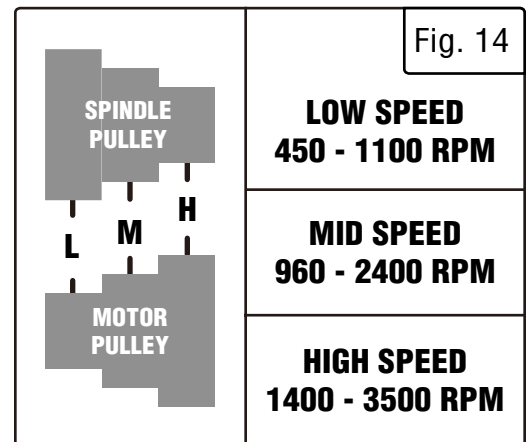

Fig. 14
This is a variable speed lathe that has three speed ranges. Choose the low, mid, or high speed range based on your specific task (see Fig. 14). The belt must be adjusted to change from one speed range to another. To adjust the belt:
3. Turn the belt tension locking handle (Fig. 17 - 2) counterclockwise and pull up on the motor plate flange (Fig. 17 - 1) to relieve tension on the drive belt. Tighten the handle. Place the drive belt between the spindle pulley and motor pulley as shown in Fig. 14 to achieve the desired speed setting.